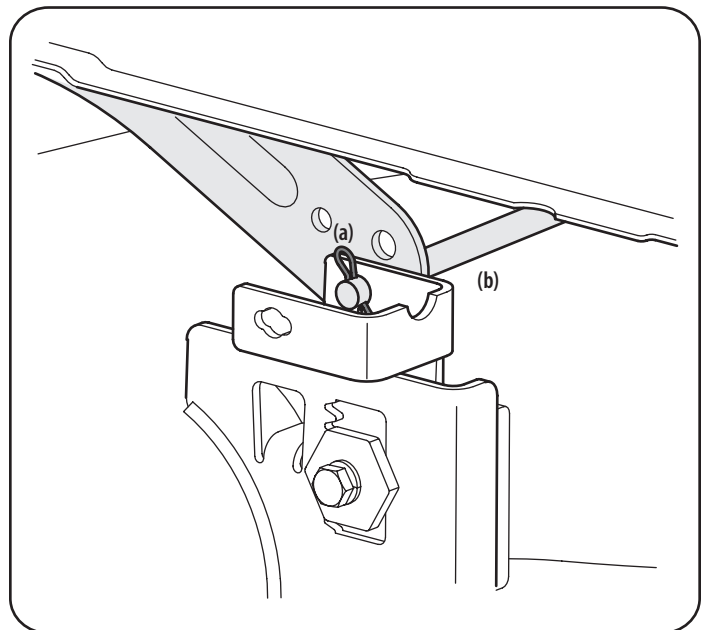

Figure 26
- Looking at the cutting deck from the left side of the tractor, locate the bow-tie pin (a) that secures the deck support rod (b) on the rear left side of the deck. See Figure 26. Remove the bow-tie pin (a) that secures the deck support rod (b), and carefully remove the deck support from the deck lift arm.